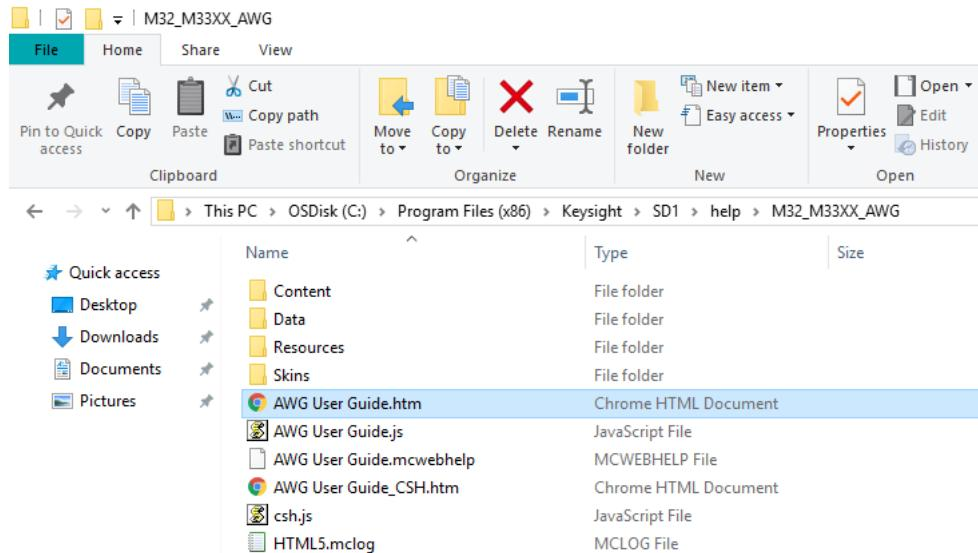

Figure 83 Accessing AWG Online Help on the local disk
- 2 Click the file “AWG User Guide.htm”, which is highlighted in Figure 83.